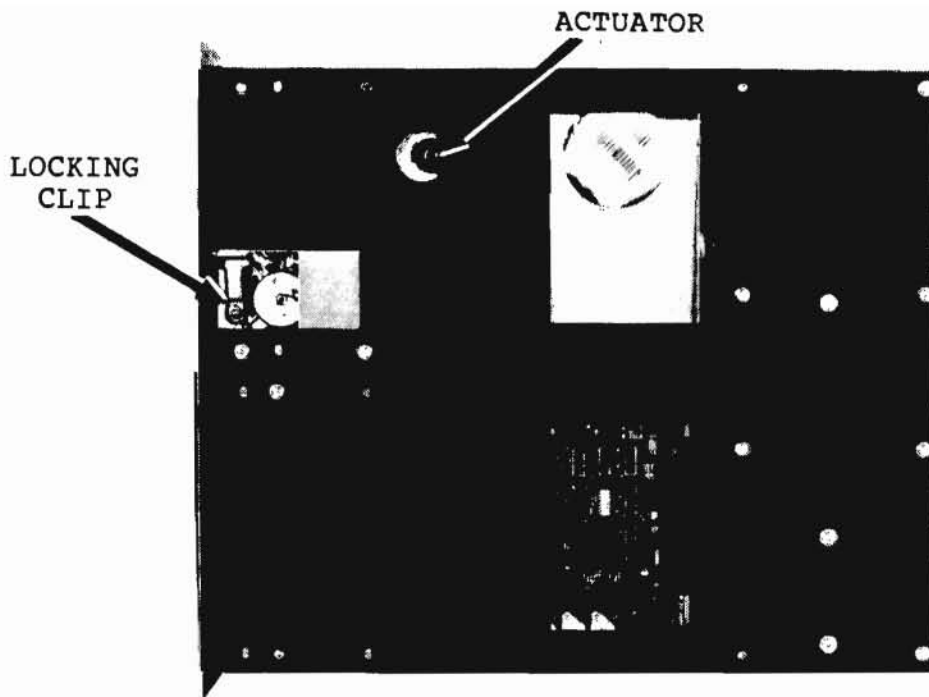

Figure 1-2a. ACS8000-12, ACS8000-14 with Bottom Plate Removed and Locking clip in Operating Position.
- c. Remove the four (4) screws that hold the rubber feet in place. This allows removal of the bottom cover plate. See Figure 1-2a, items 1 through 4.
- d. **Loosen** drive motor nut with 11/32" Hex socket or Hex nut driver. (See Figure 1-2a.)
- d. Remove the four (4) screws that hold the rubber feet in place. Remove the bottom cover plate.
- e. Lock the actuator by rotating the actuator lock clockwise as far as possible (approximately 1/2 turn.) DO NOT force. Refer to Figure 1-2a, b.
- f. Loosen the 11/32 inch hex nut that secures the drive motor clip. See Figure 1-2a, b.